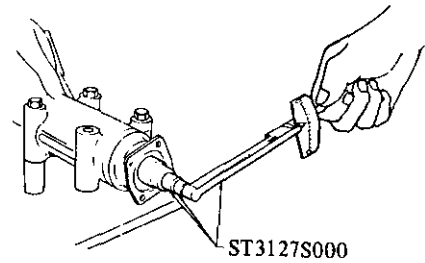

Fig. PD-22 Measuring pinion preload
4. Measure pinion bearing preload using Preload Gauge ST3127S000, and select washer and spacer that will provide required preload. See Figure PD-22.